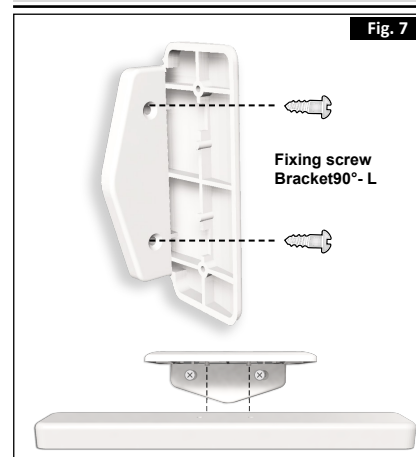

Fig. 7
- For mounting with a 90° bracket (Fig. 7), first attach the bracket to the wall with the provided screws, then attach the base to the bracket using screws through holes C and D.